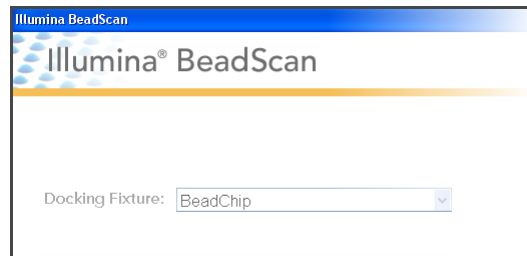

Figure 47 Select BeadChip Docking Fixture
3. From the Docking Fixture dropdown list, select **BeadChip** (Figure 47).